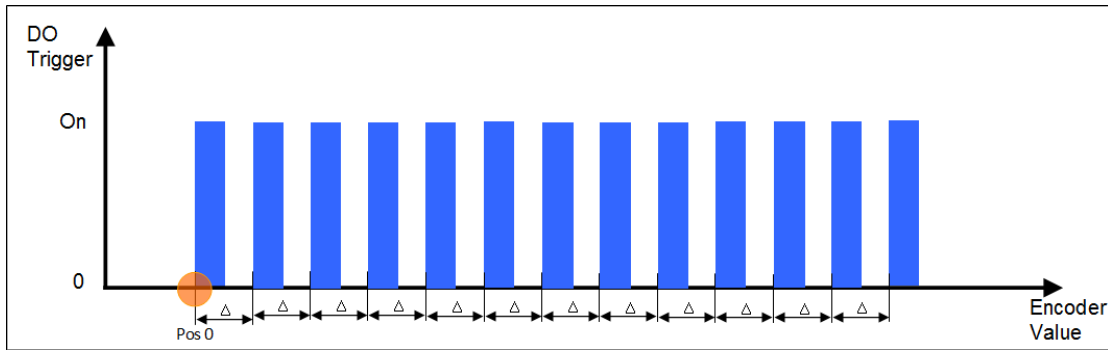

Figure 12: Auto-increment compare
2. Fixed distance auto-increment compare (Figure 12): In a unidirectional movement the next compare position will be automatically set by incrementing the current compare position with a fixed distance. This means the position compare output is generated at a fixed pitch.